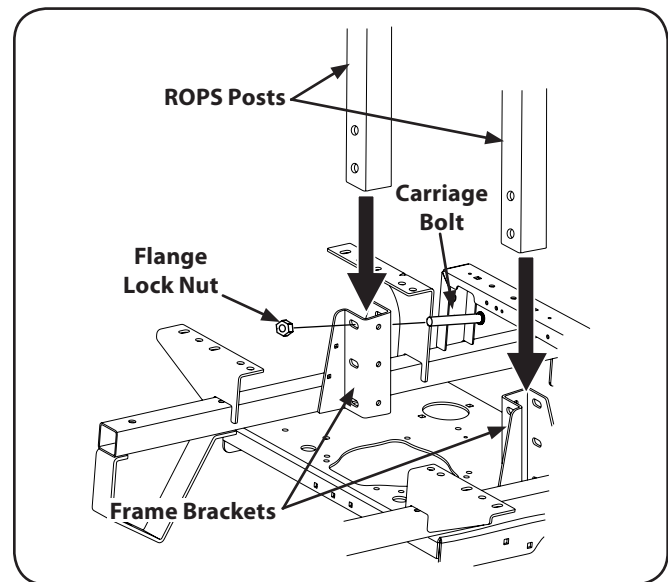

Figure 3-2
1. Insert each of the lower section ROPS tubular "posts into the brackets welded to the unit main frame. See Fig. 3-2.
NOTE: The ROPS pivot holes should be positioned toward the rear of the unit. See Fig. 3-2.
2. Insert the carriage bolts (1/2-13 x 3.25) (one per side) from the front toward the rear. See Fig. 3-2. Alternately from the rear toward the front if access is restricted.
3. Three holes are provided on each side. Use the Upper hole and one of the other two remaining holes that is easily accessible. Install the retaining nuts, but do not tighten. See Fig. 3-2.
- Tighten the frame mounting hardware to 80-90 lb.-ft. torque. See Fig. 3-2.